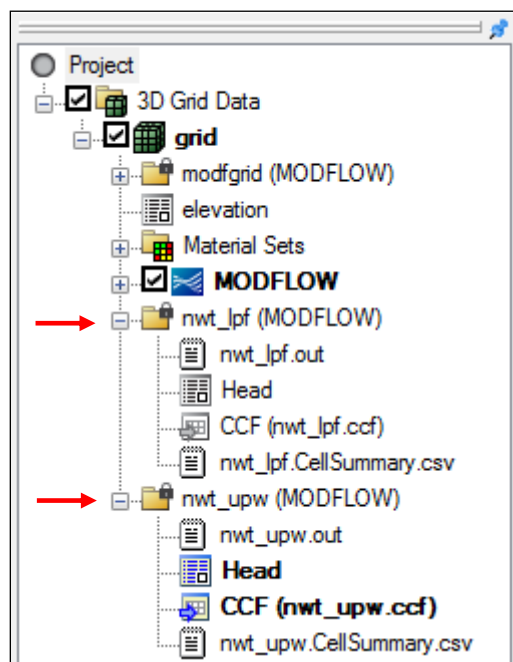

Figure 3 Project Explorer showing both solutions
4. In the Project Explorer, click back and forth on the two solutions – “nwt\_lpf (MODFLOW)” and “nwt\_upw (MODFLOW)” – (red arrows in Figure 3) to compare them.